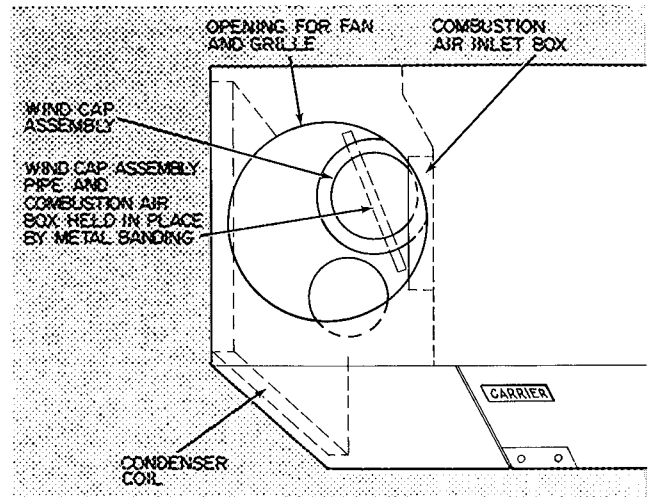

Fig. 2 — Removal From Shipping Location
*Refer to Fig 2 for differences of these series
Shipping — Windcap and combustion air inlet box assembly of units 48DH,DL002 are shipped separately. For all other 48DH,DL units, the windcap and combustion air inlet box assembly is found in the compressor compartment. Refer to Fig. 2 and proceed to remove this assembly.